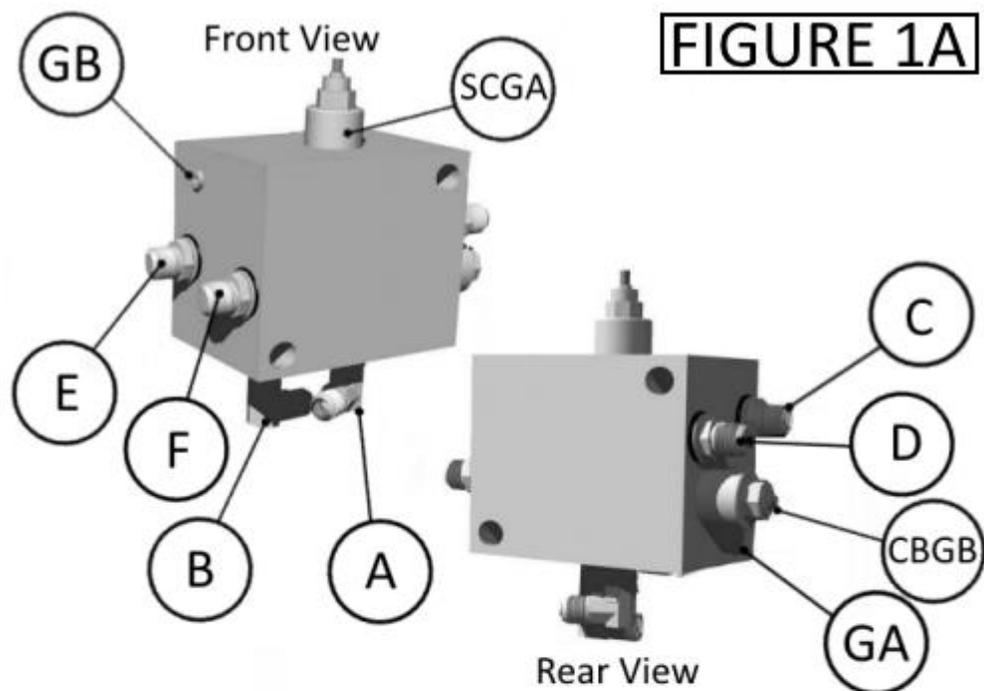

FIGURE 1A
Review the diagram of the manifold in **Figure 1A** below. Know the difference between the Sequence Valve Cartridge (SCGA), the Counterbalance Valve Cartridge (CBGB), GB Test Port (Sequence), and GA Test Port (Counterbalance).
Step 2: Double-check that hydraulic lines have had pressure removed! After that, we recommend removing the feed line at the manifold (hydraulic hose connected to ITEM A [90-degree JIC elbow] on **Figure 1A**), so there is no built-up pressure in the block.